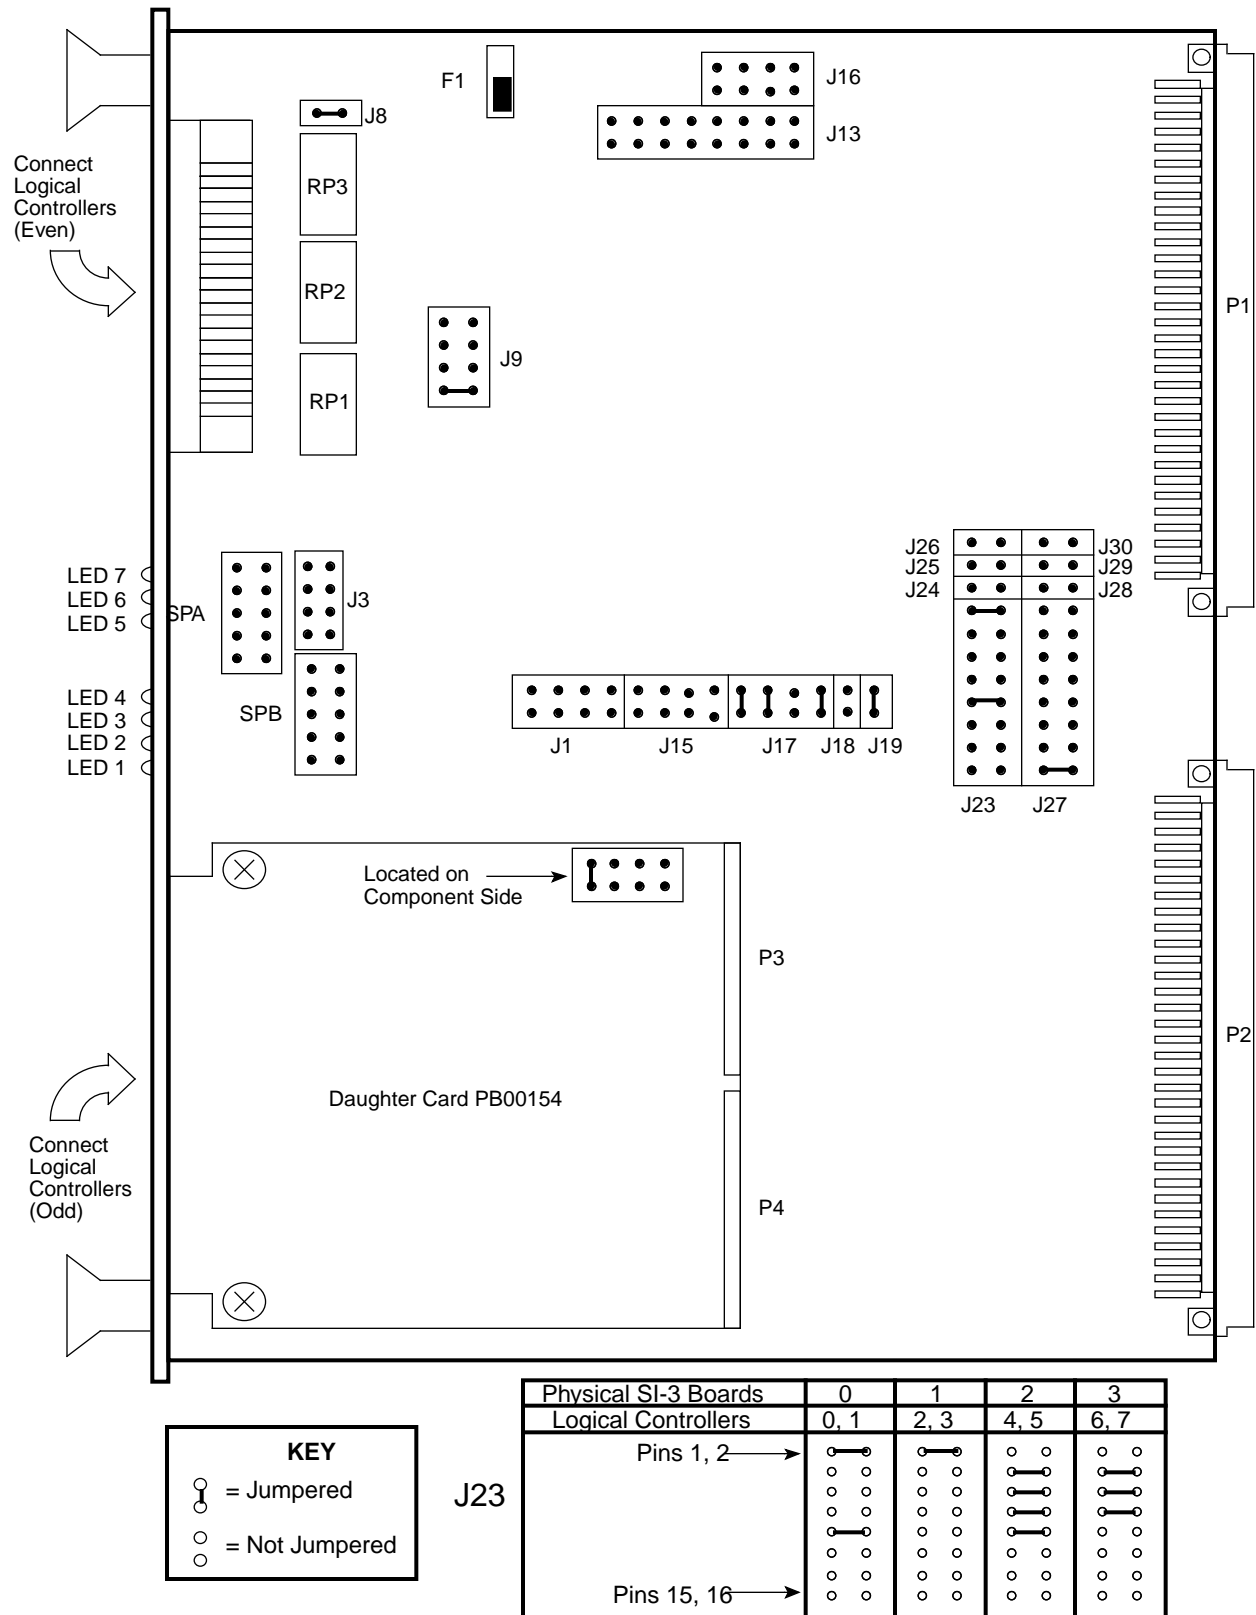

Figure 2. SI-3 Jumper Configurations
4. Change any jumpers necessary on the new SI-3 controller board. Refer to Figure 2.